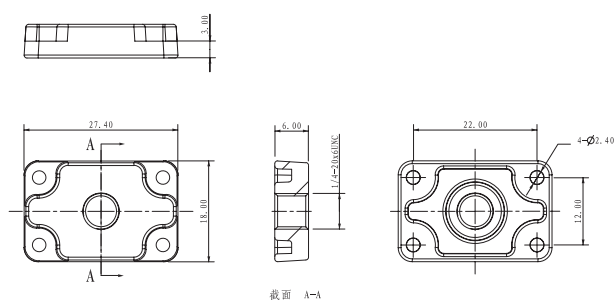

Fig. 1-4: Mechanical Dimensions (in mm) for Mounting Bracket.
- Mounting Brackets are as shown in Figure 1-4.